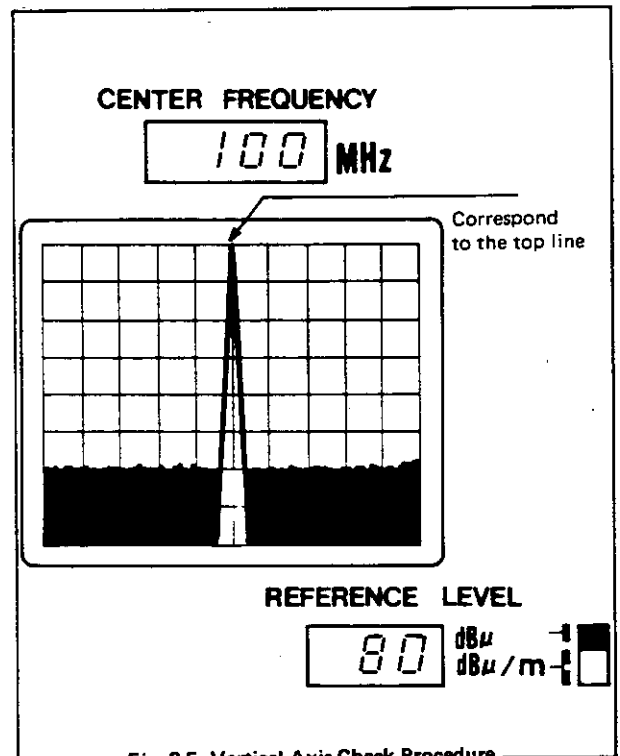

Fig. 3-5 Vertical Axis Check Procedure
- (1) Reset specific controls from the initial settings (Para 3-3-1(3)) as follows:
- (2) Adjust **IF GAIN-CAL.** to correspond to the peak of 100MHz **CAL.** signal to the horizontal top line. [Fig. 3-5]